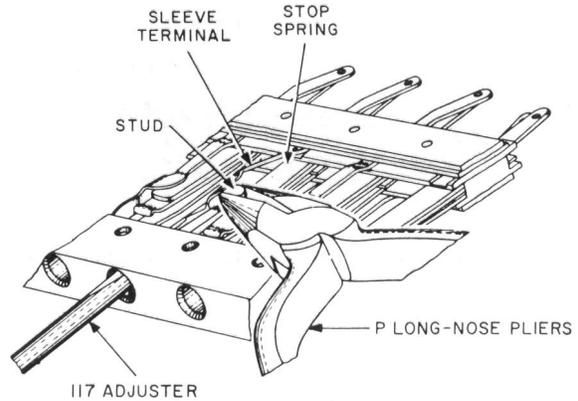

Fig. 18—Method of Replacing Stud in 92- and 292-Type Jacks
3.30 On 92- and 292-Type Jacks: To replace the stud, force the sleeve terminal up as far as possible with the 303 spring adjuster. Then while depressing the stop spring with the 117 jack tip and ring spring adjuster, insert the stud in the hole in the stop spring, using the P long-nose pliers as shown in Fig. 18. Force the sleeve terminal down to its original position with the 303 spring adjuster and the fingers.